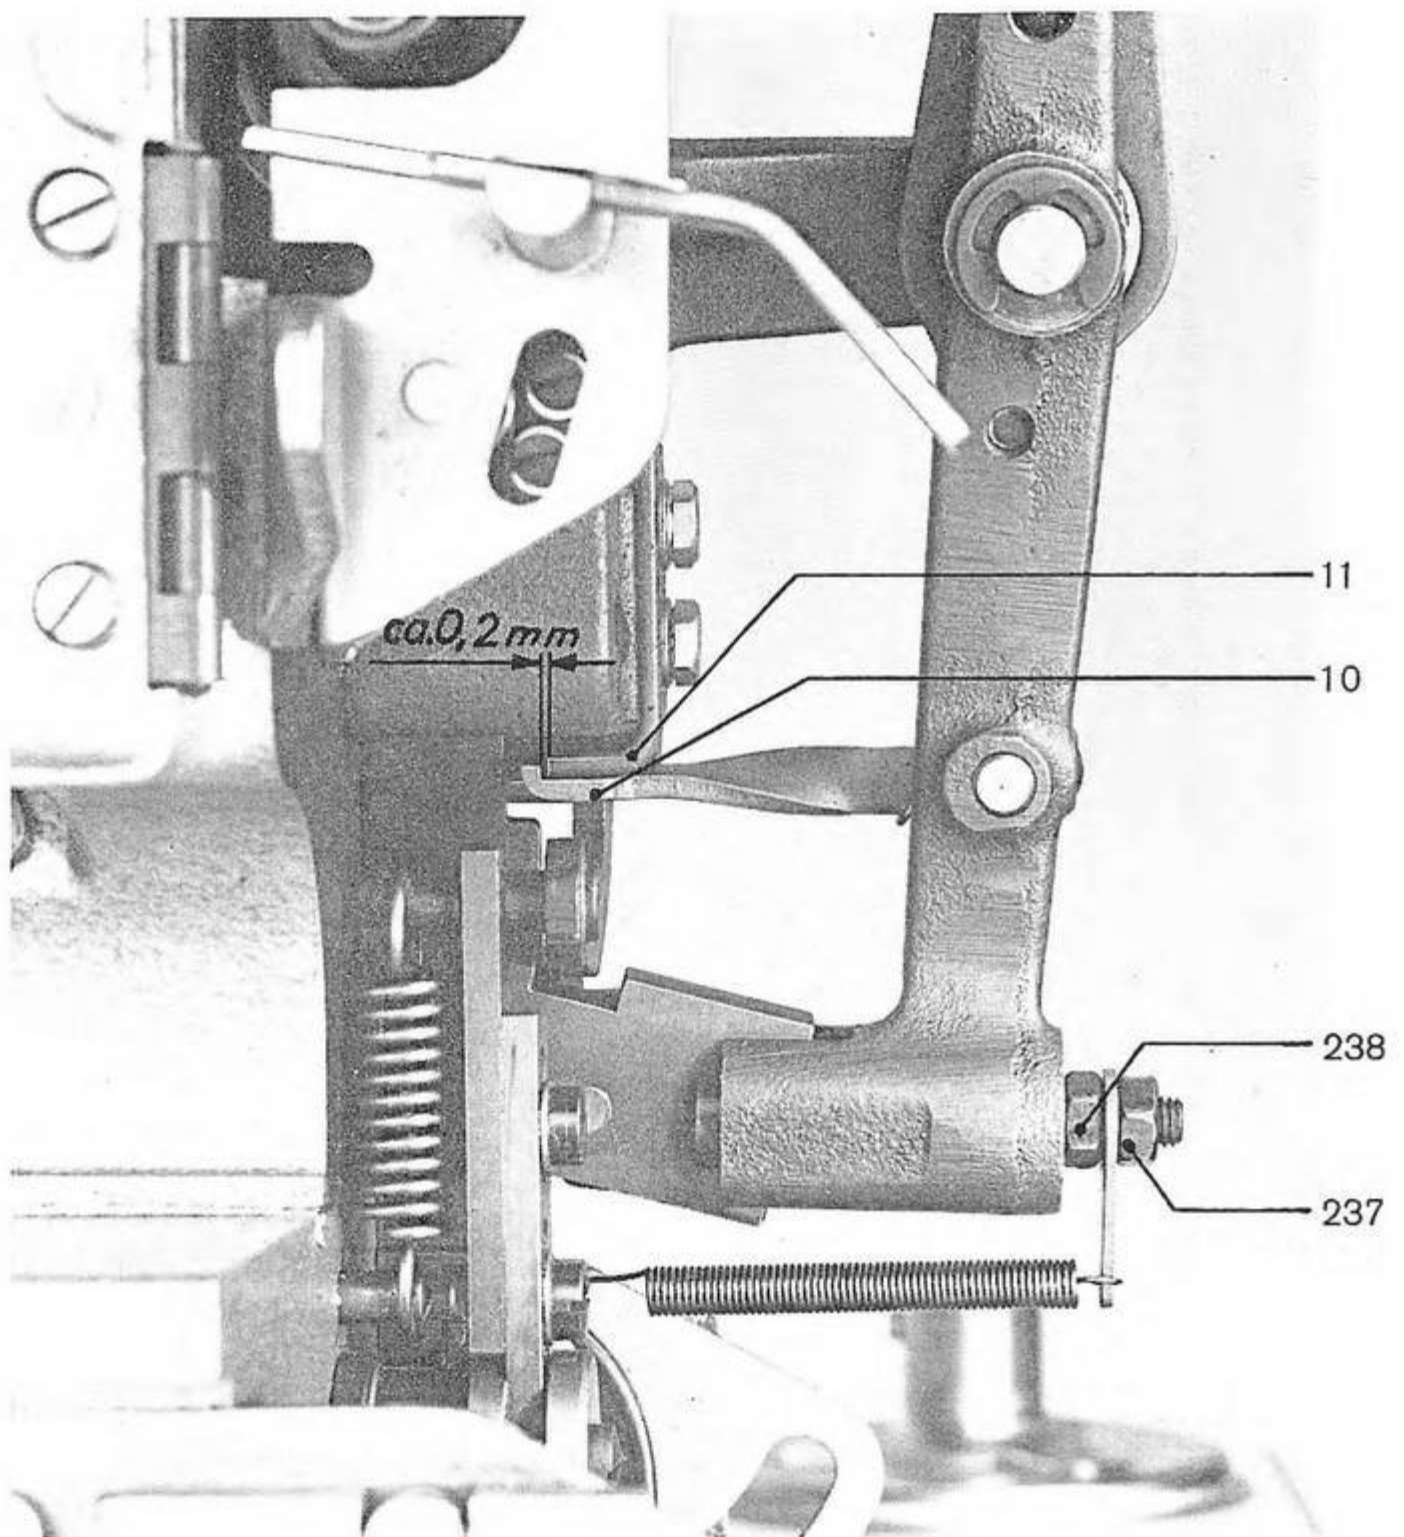

Fig. 51
2. In this position of the machine, the depressed ratchet 10 (fig. 51) should freely move behind the angular member 11. The distance between the ratchet 10 and the angular member 11 should amount to about 0.2 mm. See fig. 51.